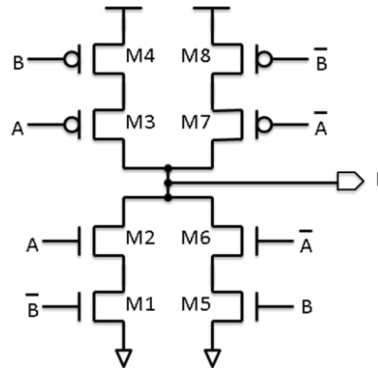

Figure 2.
3. Consider the complex gate in Figure 2: [12 pts]
- Draw the truth table and determine the logic function of the complex gate shown in Fig. 2. [3 pts]
- (a) Draw the truth table and determine the logic function of the complex gate shown in Fig. 2. (10 pts)